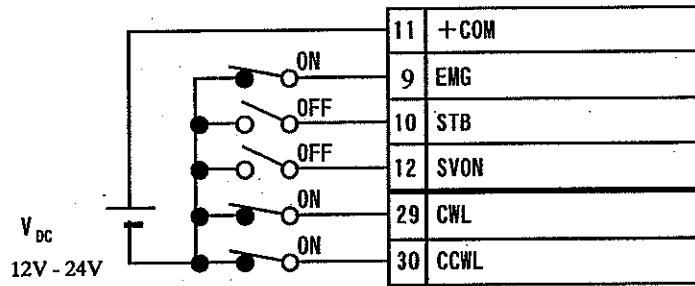

Fig. 8-1 Connector I/F connection example
- (1) Perform the following operations for the safety.
- (2) In case of using a motor with a brake, be sure to release the brake.
- (3) Set the polarity of signals connected to the connector I/F input signal pins and switches as shown in Fig. 8-1, and apply control signal power supply (DC12 - 24V).
- (4) Turn the power supply on for the position driver.